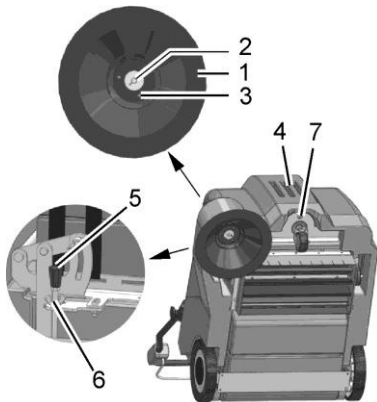

Fig. 8
Check the side brush (Fig. 8/1) weekly and change in the case of wear.
2. Remove the wing bolt (Fig. 8/2) with the washer from underneath the side brush (Fig. 8/1).
In the case of brush wear and after changing the side brush (Fig. 8/1), readjust the sweeping pattern.
1. Switch the machine off; unscrew the locking bolt (Fig. 8/7) and open the hood (Fig. 8/4).
2. Loosen the counternut (Fig. 8/6) and adjust the sweeping pattern by turning the adjusting bolt (Fig. 8/5) clockwise and counter clockwise so that it touches the floor.
8. Close the hood (Fig. 8/4) and screw the locking bolt (Fig. 8/7) back in.